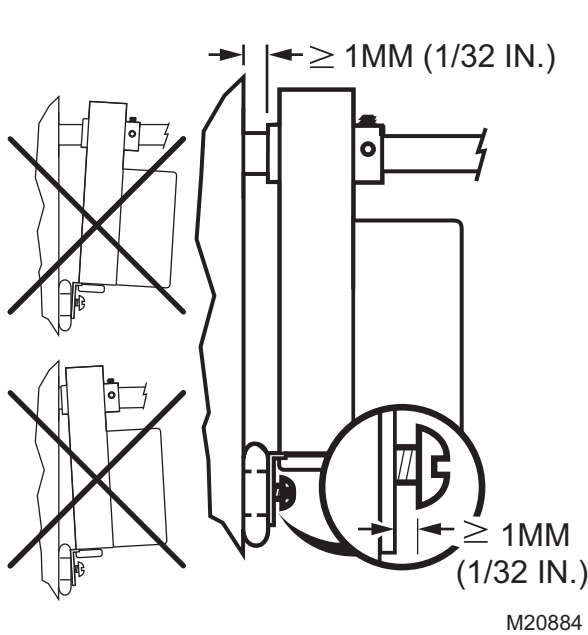

Fig. 4. Mounting W7751H to VAV box damper housing when actuator is not parallel to VAV box damper housing.
The W7751H actuator is shipped in the fully clockwise (CW) position (90 degree). The W7751H Assembly must be mounted to a horizontal damper shaft to assure proper heat dissipation from the controller housing. Mount the W7751H so that the actuator is parallel with the VAV box damper housing. In general, it is recommended that a washer or spacer be added between the VAV box damper housing and the actuator mounting tab to keep them parallel. See Fig. 4.
Mount actuator flush with damper housing or add spacer between mounting tab and damper box housing. (See Fig. 4.)